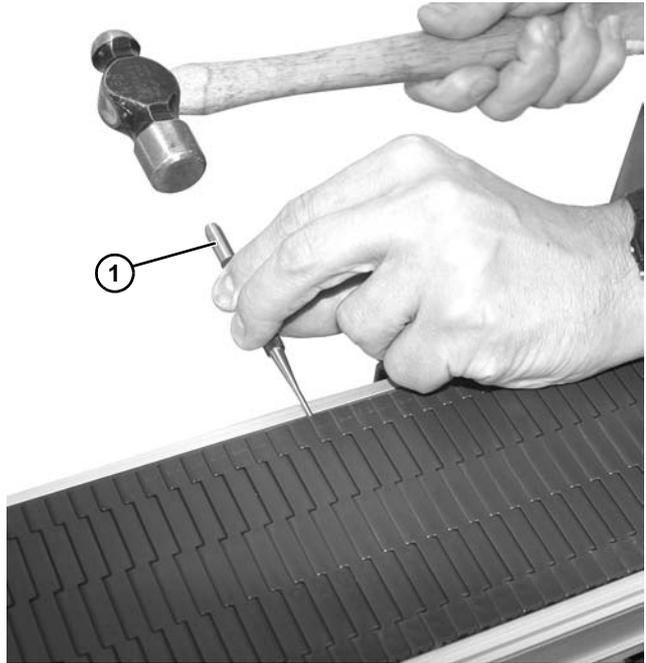

Figure 34
2. Insert punch (Figure 34, item 1) into non-retaining side of belt, pushing rod out.